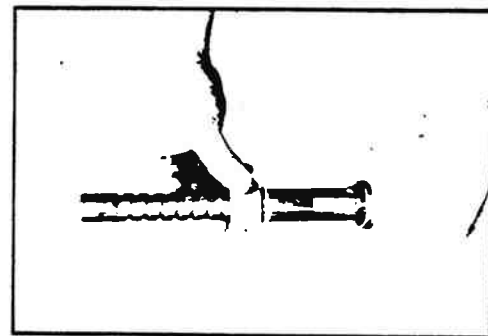

Figure 11-57. Use of Compression Tool.
2. Compress the seal with seal compression tool J26740, and set the worm shaft aside for 10 minutes (figure 11-57).